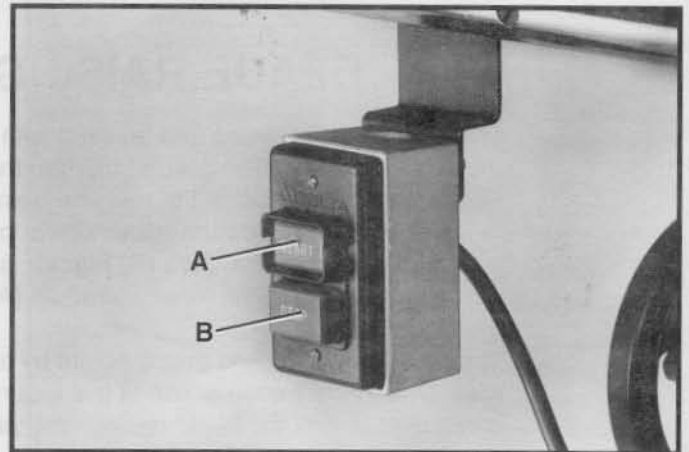

Fig. 43
To apply power to the machine, push start button (A) Fig. 43. To stop the machine, push stop button (B).